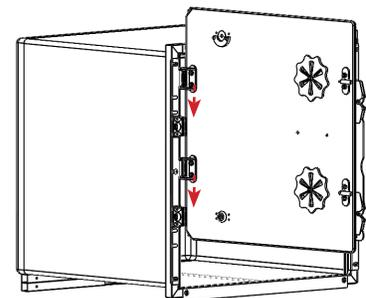

FIGURE 2.13 - Door Installation
STEP 6: Install the O₂ Door by holding the door hinge pins/bushings above the cage hinges at a 90° angle to the face of the cage. Slide the hinge pins/bushings down into the hinges. See FIGURE 2.13